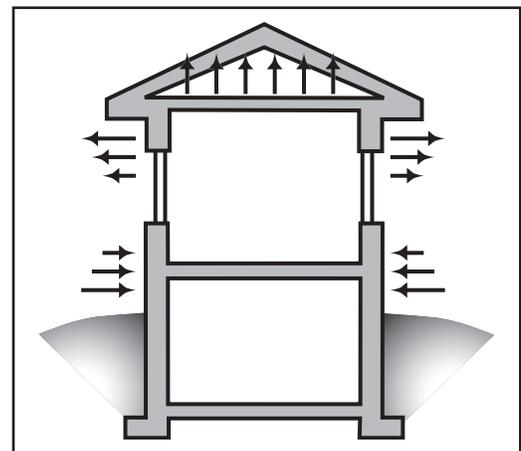

Fig. E-37: Stack effect (winter)
- Temperature: The greater the temperature difference, the greater the airflow. Warm air tends to rise toward the top of the building. This is referred to as the “stack effect” (see Figure E-37). The stack effect creates a positive pressure along the ceiling and the upper areas of the exterior walls causing air to leak out any cracks or holes. The rising air creates a negative pressure in the lower region of the house causing outdoor air to be drawn in through any holes or cracks. The house, in effect, acts like a chimney. Air-tightening measures will help reduce the stack effect to a point where drafts are generally not noticeable, although the effect can never be completely eliminated.